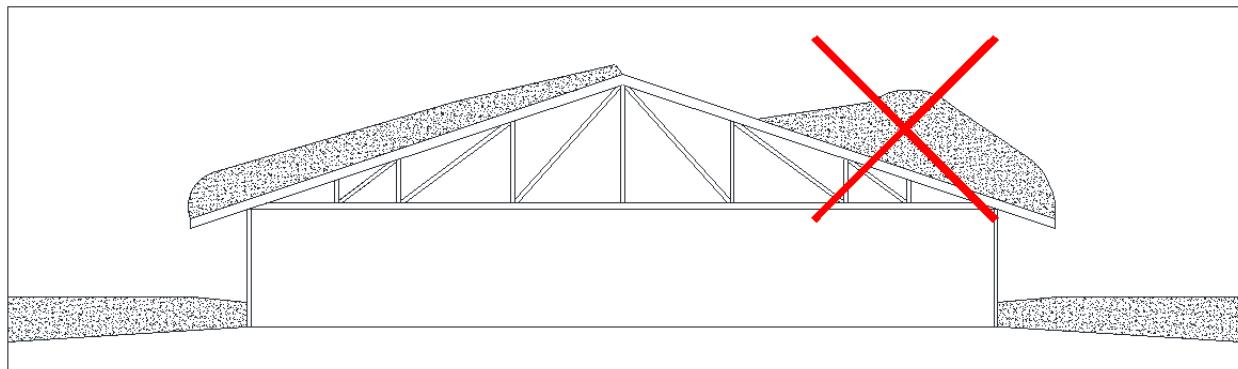

Figure 7. Roof snow load removed in an inappropriate manner – concentrated and unbalanced unloading.
- Pile large piles of moved snow atop the roof (Figures 7 and 8.). A structure may be able to support a snow load when it is spread equally across, but once loads are combined over smaller portions of the roof, failure may occur in those areas. Remove snow gradually from the roof to the ground, starting with lower zones and working up to the peak as outlined above.